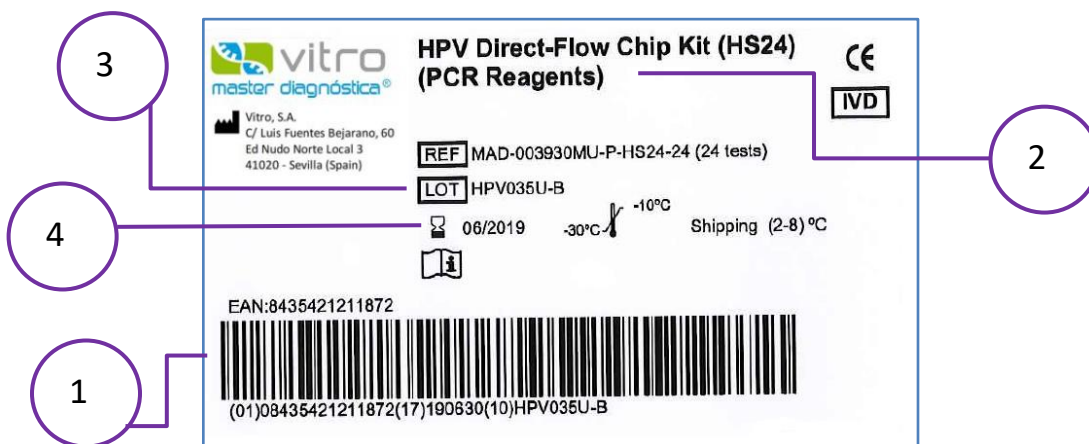
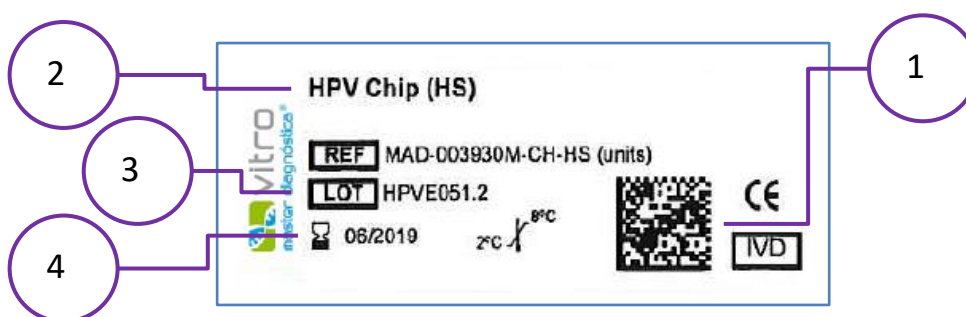
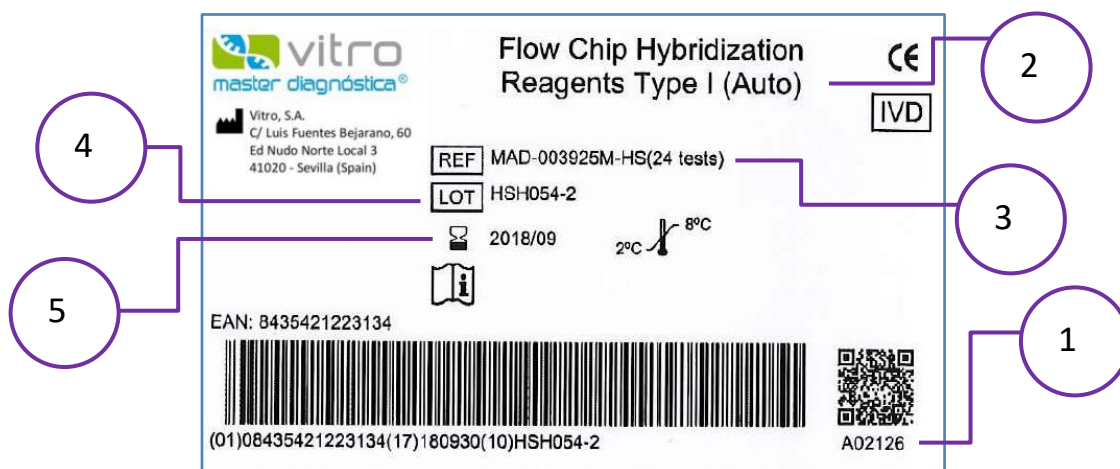

Figure 63. PCR ID tag.
Figure 64. Chips ID tag.
Figure 65. ID tag of reagents of automatic instruments.
- PCR reagents ID (Figure 63, Point 2): sign that shows the corresponding test, instrument and its corresponding format, and the reagents' ID.
- Chips ID (Figure 64, Point 2): sign of the product that identifies the product and the test it belongs to.
- Reagent ID (Figure 65, point 2) it identifies the test/kit it belongs to and shows the type of product.
- Lot (Figure 63, Point 3, Figure 64, Point 3 and Figure 65, point 4): the lot field shows the lot of the reagents of the product. This field has a maximum of 15 characters.
- Expiration (Figure 63, Point 4, Figure 64, Point 4 and Figure 65, point 5): the hourglass shows the expiration date of the product.
- EAN PCR Code (Figure 63, point 1): bar code necessary to perform the automatic registry of the PCR reagents. It contains the lot data and the expiration of the product.
- BIDI Code: BIDI code necessary to perform the automatic registry of the chips and the reagents for automatic instruments. The BIDI codes currently in use are QR (Figure 64, point 1) and Datamatrix codes (Figure 65, point 1).
- Code: field of automatic registry with reading of QR code. Place the cursor on the “Code” field, introduce the QR bar code of the kit (Figure 65, Point 1) by using a bar-code reader. The data will be filled in automatically.
- Kit ID (Figure 65; **Error! No se encuentra el origen de la referencia.**, Point 1): Unique identification of each kit. It appears in the lower right corner of the big tag of the kit. This field must be filled in with 6 characters.
- Number of Test (Figure 65, Point 3): maximum number of samples that can be performed with that kit. It appears in the Kit reference in brackets. This field must be filled in with a maximum of 10 characters.
- Lot (Figure 65, Point 4): ID of the reagents. It can be found in the center of the tag, showing the word “LOT”. This field must be filled in with a maximum of 20 characters.
- Expiration (Figure 65, Point 5): date until the reagents work correctly. It can be found in the center of the big tag of the kit, identified with an hourglass symbol. This field must be filled in with six digits, as it is shown in the date format in the window.
- Manual registry: fill in each of the fields with the information of the product tag (PCR/reagents manual inst: Figure 63; Chips: Figure 64 and reagents inst. Automatic: Figure 65).